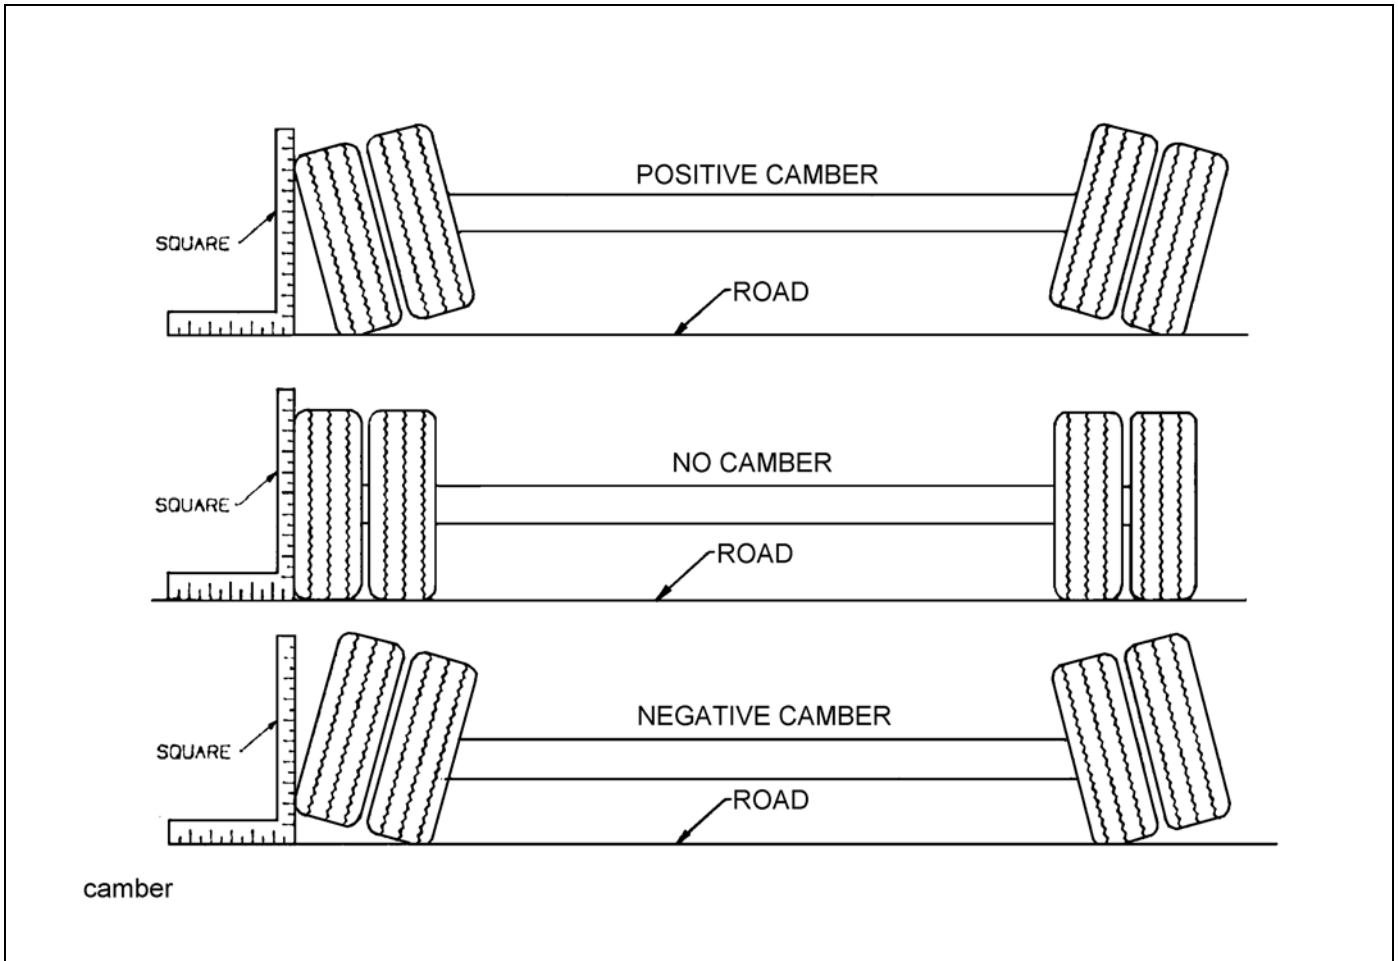

Figure 4-5: Examples of Camber
4. Follow the same procedures as in **steps 2 and 3**, except place the axle gauge above and below the axle. If gauge point gap is found, the axle has positive or negative camber. The trailer axle has no camber from the factory. If it is found to have positive or negative camber, axle replacement is necessary **(See Figure 4-5 for examples of camber).**